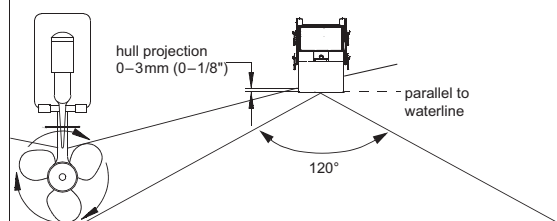
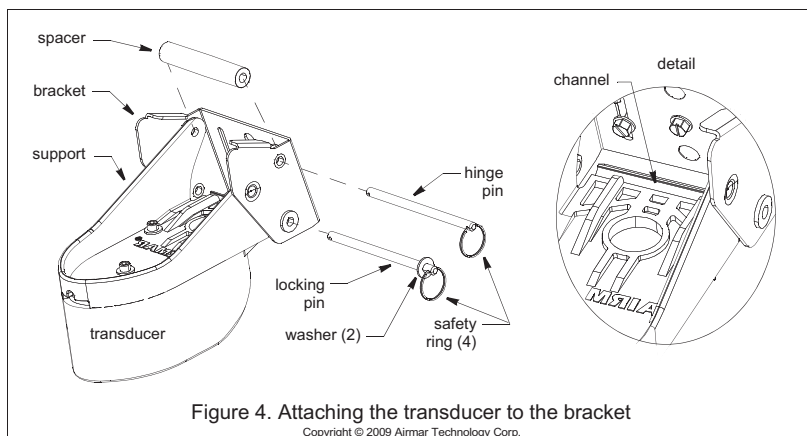
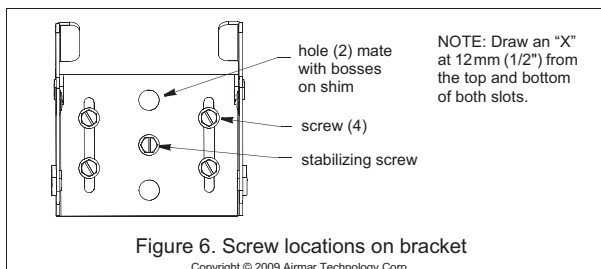

Figure 1. Mounting location on single drive boat
Figure 4. Attaching the transducer to the bracket
Figure 6. Screw locations on bracket
- Mounting on the side of the transom where the propeller blades are moving downward is preferred (see Figure 1).
- Single drive —Mount a minimum of 15cm (6") beyond the swing radius of the propeller (see Figure 1).
3. Attach a safety ring to one end of each pin (see Figure 4).
1. At the selected mounting location, position the assembly so the transducer projects 3mm (1/8") below the bottom edge of the transom (see Figure 1). Be sure any shim(s) is in place. (You may want to tape the shim(s) to the bracket temporarily.) With the transducer in the operational position, mark the bottom corners of the bracket.
2. Remove the transducer assembly from the bracket by removing the locking pin and the hinge pin (see Figure 4). Hold the bracket with any shim(s) in place against the transom at the marked location. Draw an "X" at 12mm (1/2") from the top and the bottom of each slot (see Figure 6).
1. Apply marine sealant to the threads of four of the hex-washer-head screws to prevent water seepage into the transom. Being sure any shim(s) is in place, screw the bracket to the hull using a socket wrench (see Figure 4). Do not tighten the screws at this time.
5. Using the vertical adjustment space in the bracket slots, slide the assembly up or down until the bottom inside corner of the transducer projections 0–3mm (0–1/8") below the bottom of the hull (see Figure 1). When you are satisfied with the position of the transducer, tighten the four bracket screws. For clear access to the screws, remove the transducer assembly from the bracket (see Figure 4). When reattaching, be sure to include the spacer.
- b. Move the transducer deeper into the water in increments of 3mm (1/8") (see Figure 1).
1. Prevent the bracket from moving out of position using the remaining hex-washer-head screw. Drill the hole for the stabilizing screw through the center hole of the bracket, any shim(s), and the hull (see Figure 6).
3. Fasten the stabilizing screw into place with a socket wrench. For clear access to the screw, remove the transducer assembly from the bracket (see Figure 4). When reattaching the transducer, be sure to include the spacer.